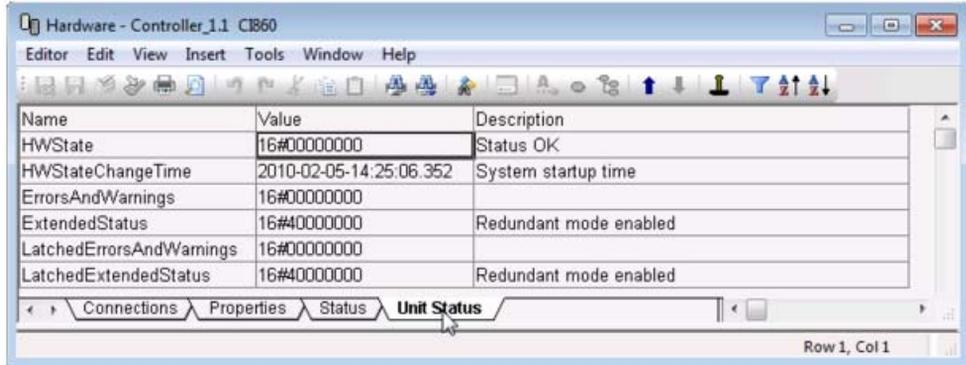

Figure 33. CI860 Unit Status Tab in Online Mode
- Choose the Unit Status tab (see Figure 33) to get online information on the hardware status of the CI860 module. For details, refer to the Control Builder documentation.